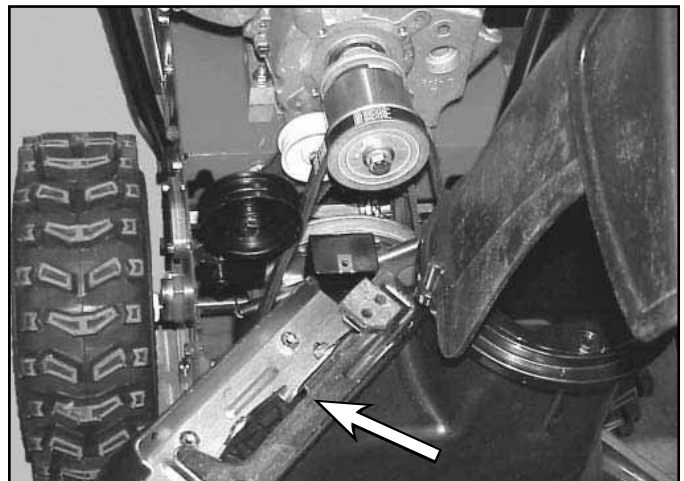

Fig 078
6. Remove the auger brake assembly (Fig. 078).